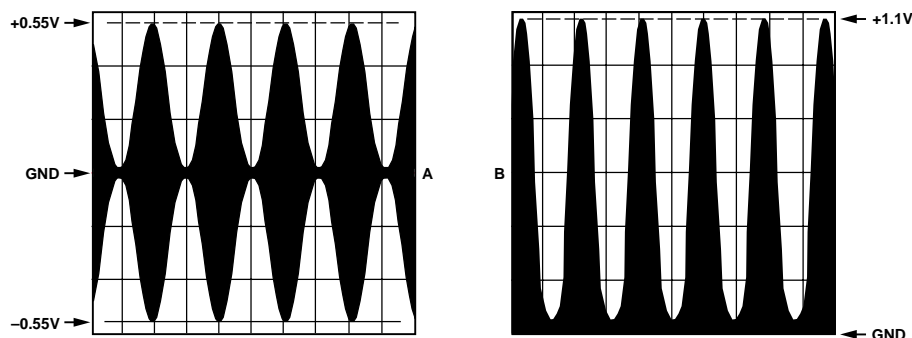

Figure 1. Symmetrical (A) and asymmetrical (B) amplitude modulation envelopes
Use of an enhancement mode MOSFET is in keeping with the single supply concept. The design is simple and parts count minimal. Combining the I_{OUT} and I_{OUTB} DAC outputs in a center-tapped broadband RF transformer produces a symmetrical modulation envelope as seen in Figure 1(A). Figure 1(B) shows the effect of not combining the two outputs and simply observing one output— asymmetrical amplitude modulation. The same signal was used to modulate both configurations.